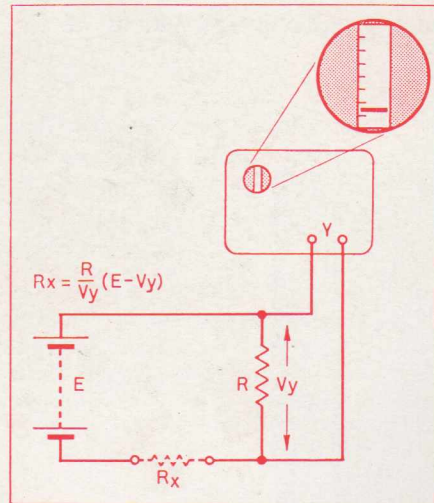

Fig. 9
- (a) Set up the circuit as shown in Fig. 9.